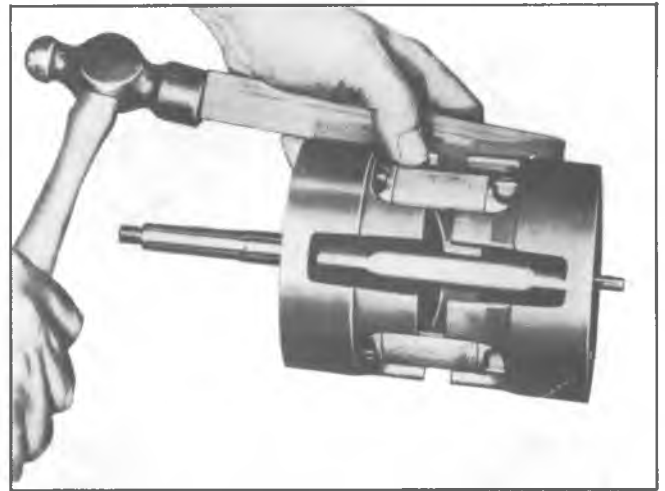

Fig. 31--Separating Cylinder Halves
3. Separate cylinder halves, using a wood block and mallet (Fig. 31). Make certain that discharge cross-over tube does not contact axial plate when separating cylinder halves (a new Service discharge cross-over tube will be installed later).